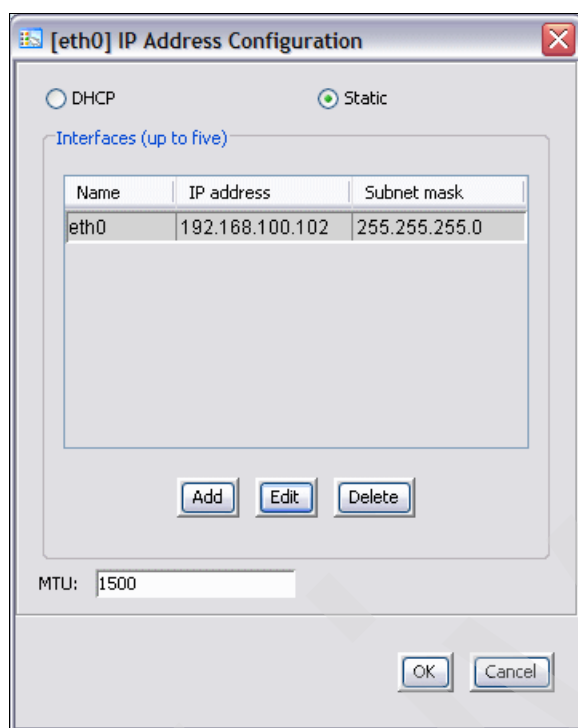

Figure 5-27 IP Address Configuration
4. Configure IP address for NIC eth0, as shown in Figure 5-27.